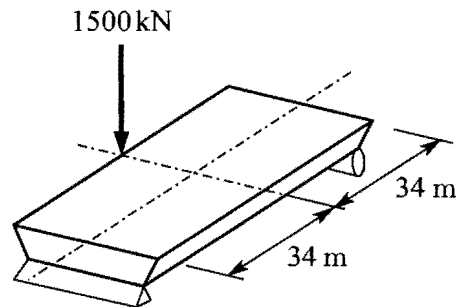

Figure 4
- (c) What is the ratio of (i) angle of twist and (ii) torsional rigidity (GJ) in the two cases?
- * 9. The load on the bridge described in question 4 is now moved to the edge of the bridge, as shown in Figure 4.